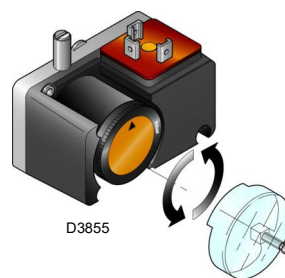

Fig. 28
- Adjust the minimum gas pressure switch (Fig. 28 on page 28) to the start of the scale.
Adjust the minimum gas pressure switch (Fig. 28) after having adjusted the burner, the gas valves and the gas train stabiliser.